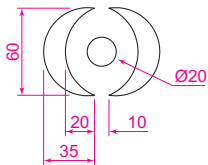

Fig. 5.19 Second example – the drawing to be arrayed
1. Construct the drawing Fig. 5.19.